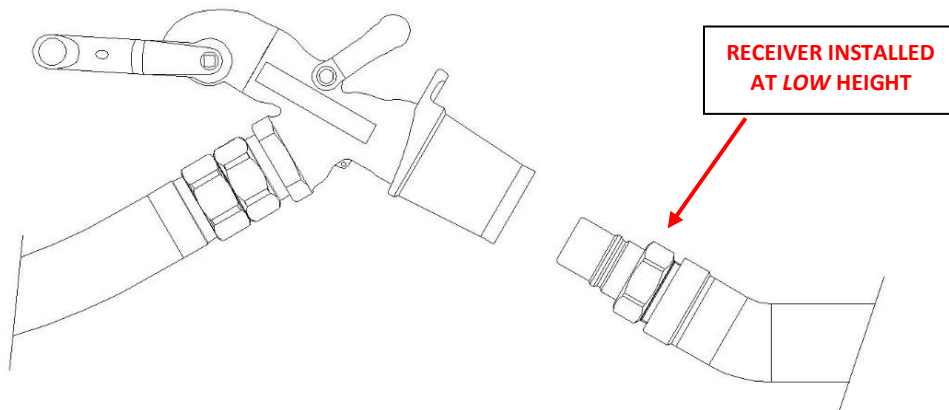

Figure 17 - Angled (Up) Orientation of Receiver
- If the Receiver is installed at a height **below** (human) waist height (i.e. below approx. 0.9m, 3'), end-users may benefit from the installation of the Receiver in an **upwards** orientation – as per Figure 17.